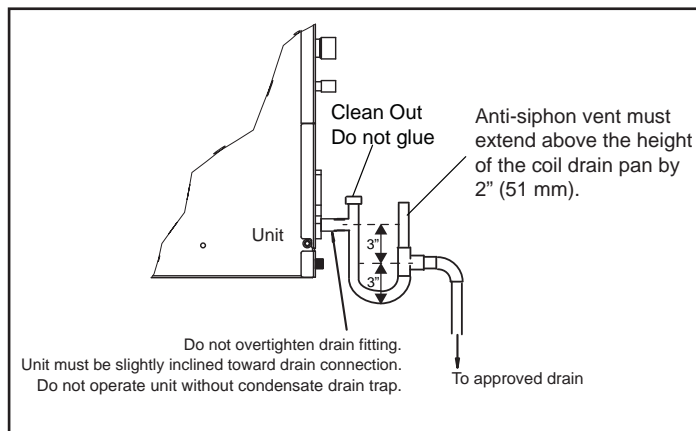

Figure 11. Condensate Drain Trap
5. Install a 3" trap in the main (primary) drain lines as close to the unit as practical (see figure 11). Make sure the top of the trap is below the connection to the drain pan to allow complete drainage of the pan.
NOTE - Horizontal runs must have an anti-siphon air vent (standpipe) installed ahead of the horizontal run. See figure 11. An extremely long horizontal run may require an oversized drain line to eliminate air traps.